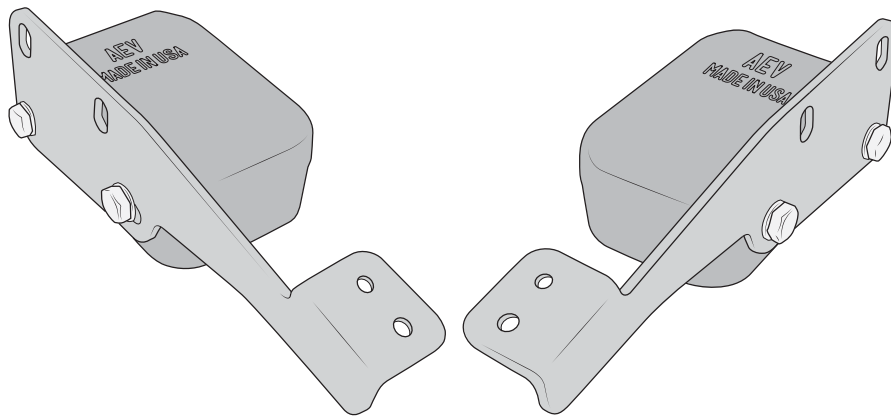

Figure 21
- a. Pre-assemble the brake line/bump stop brackets to the bump stops as shown (fig. 21). Only snug bolts at this time, you will need movement to adjust position on vehicle.